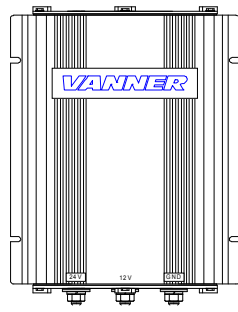

**Figure 8 - CHECKING OUTPUT SHAFT CLEARANCE (GROUND-FLOAT TYPE)**
3. As described in figure 8, measure the distance between the shaft pressed-in and pulled-out positions. The play should be within 0.004" to 0.118" (0.1 to 3.0 mm). If the measured value does not satisfy the standard, replace the starter.